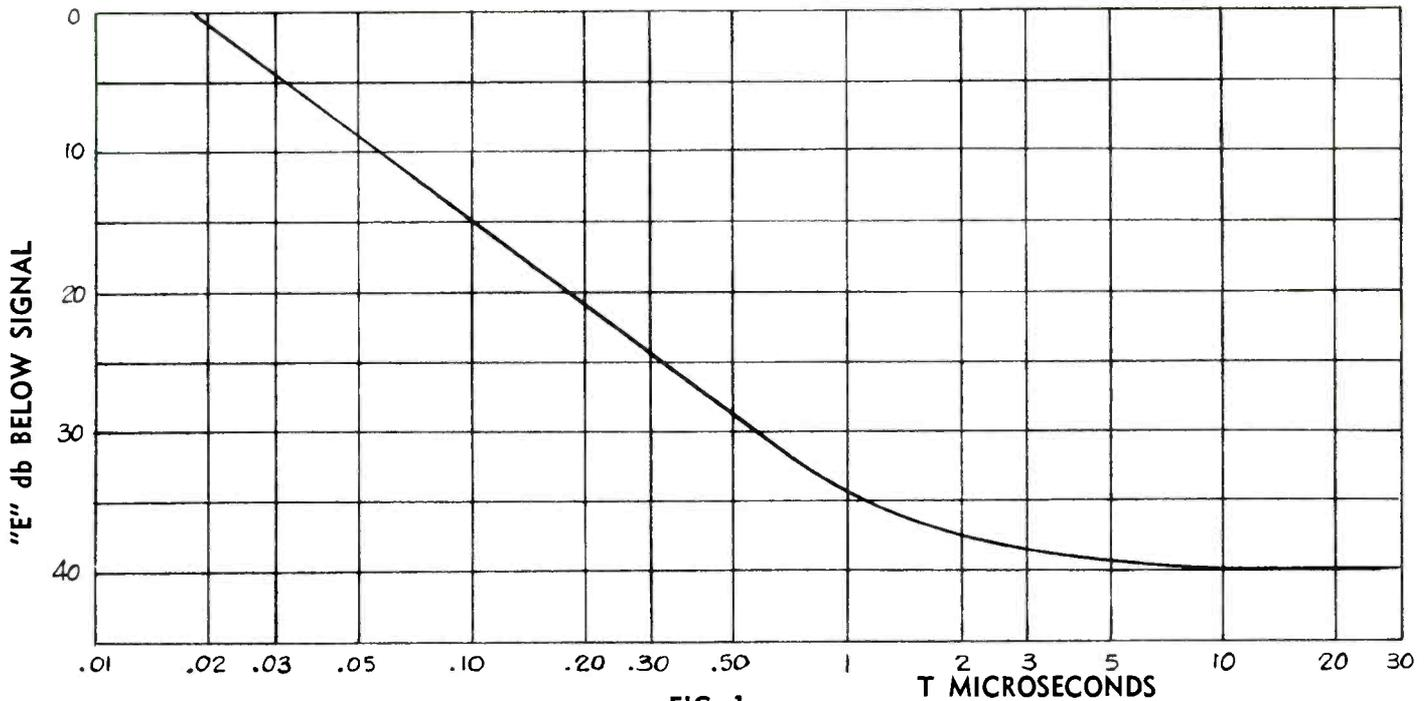
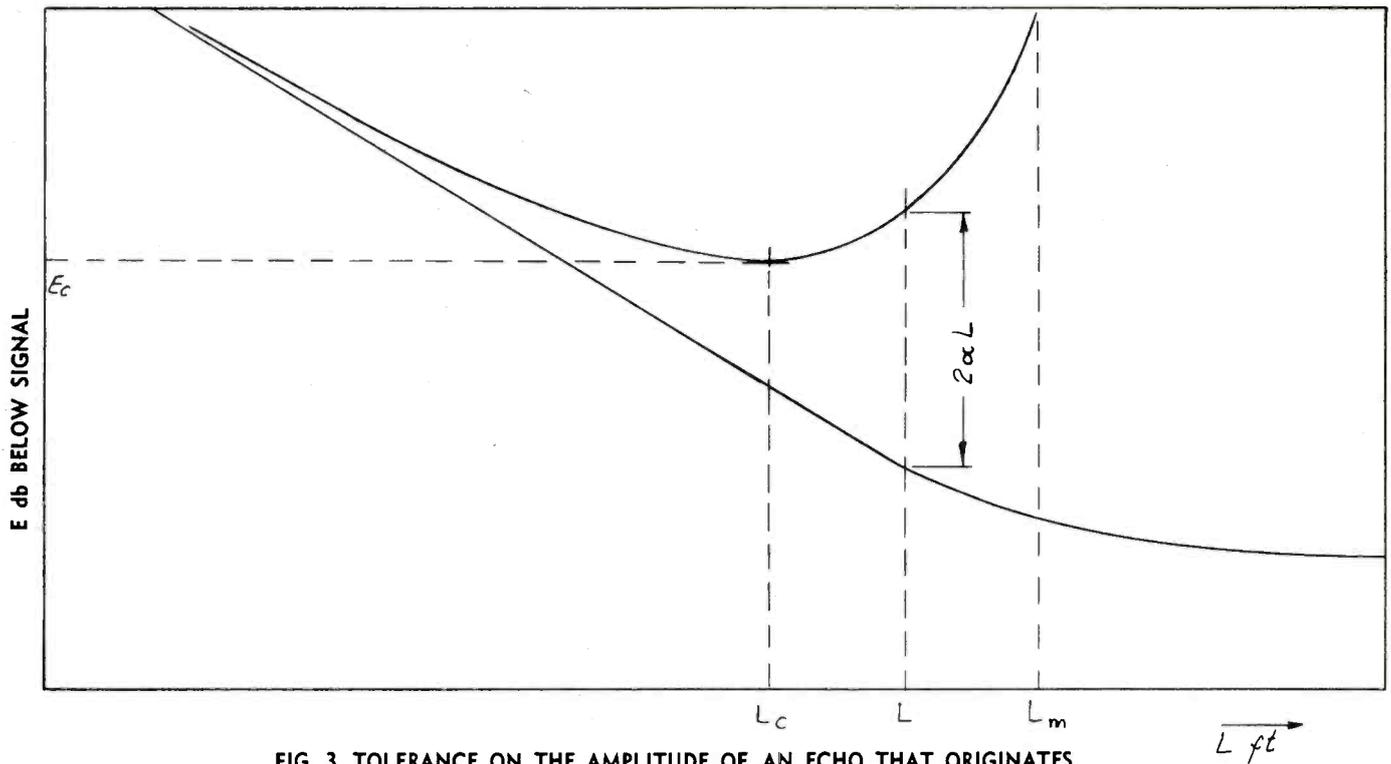

FIG. 1
FIG. 3 TOLERANCE ON THE AMPLITUDE OF AN ECHO THAT ORIGINATES AT A POINT  $L$  FT. DOWN THE LINE
Since the judgment of picture quality is a subjective affair, the question does not have a unique answer. Many experiments were conducted, by different organizations, about subjective judgment of pictures degraded by echoes, and Fig. 1 shows a representative curve that is widely accepted as a standard. This curve is described as a "summary curve, taken as reasonably representative, smoothed from data covering pictures and engraved geometrical forms."(1)
it hits the reflecting obstacle at *b*; the echo is again attenuated by  $\alpha L$  db on its way back to *a*. The echo at *a*, compared to the signal at the same point, is then  $2\alpha L$  db lower than the reflection coefficient at *b*. As a result, the tolerable echo at *b* is  $2\alpha L$  db larger than that indicated by Fig. 1.
Fig. 3 shows a typical plot of the tolerable return loss at *b* as a function of *L*. This plot is obtained from Fig. 1 by changing the horizontal scale from time *T* to distance *L*, according to the velocity of propagation, and by subtracting  $2\alpha L$  db from the maximum tolerable return loss at every point. The specific numerical values depend, of course, on the loss factor  $\alpha$ , but every curve will have three distinctive features:
Some systems have fallen down simply because these factors were not wholly satisfied. A six-carrier set-up is depicted in Fig. 1, and this may well represent a three-channel TV system with three sound carriers and three vision carriers. All is very well provided each carrier is kept to its own little circuit. However, if, for example, a little of carrier one gets into carrier two circuit there are real fun and games. Let us suppose that carrier one carries a vision signal and that carrier two looks after the accompanying sound. Two C1 vision signals are thus going to enter the outgoing networks. There will be the correct signal via C1 circuit plus a very distorted signal, though at lower level (we hope), via circuit C2.